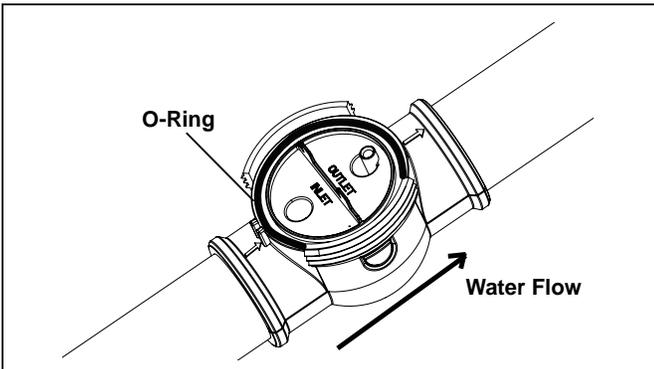

Figure 11. Water Flow Arrows
- Insert the o-ring into the channel on each of the clamps (see Figure 11).